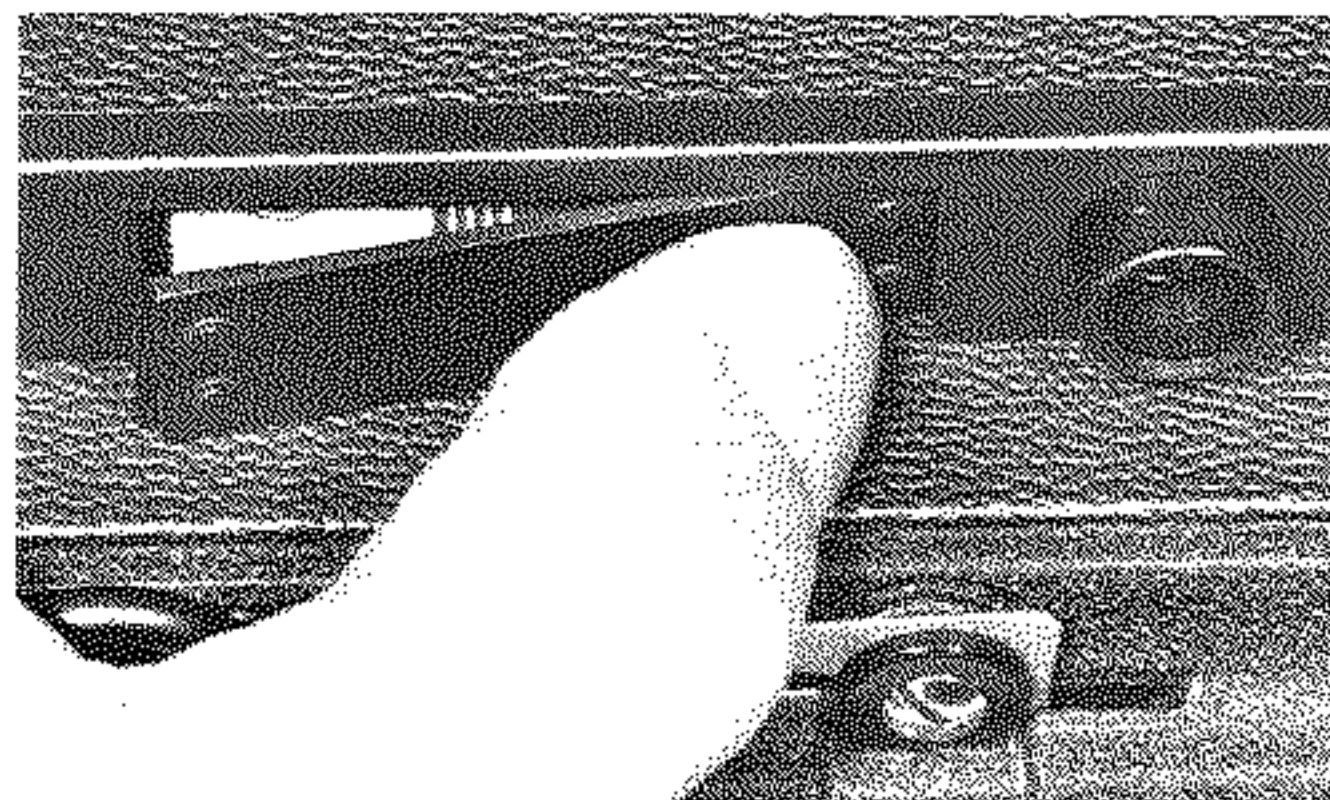

Figure 9. INSERTING BATTERY COVER
h. Batteries are positioned in the rear rangefinder housing. Slip two penlite batteries into the openings, alternating top and bottom position. Replace the cover by slipping one end into the opening; press in the other end and move flush (figure 9). Lamp should light when red button on left is pressed.